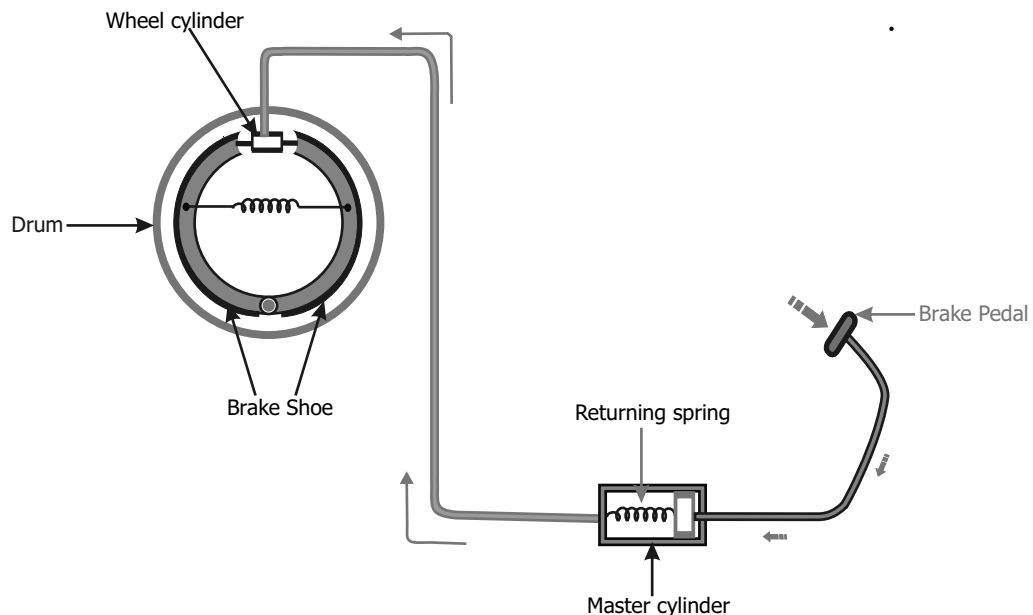

Figure 3.4 Working of hydraulic brake system
- It has two main components master cylinder and wheel cylinder (Fig.3.4).